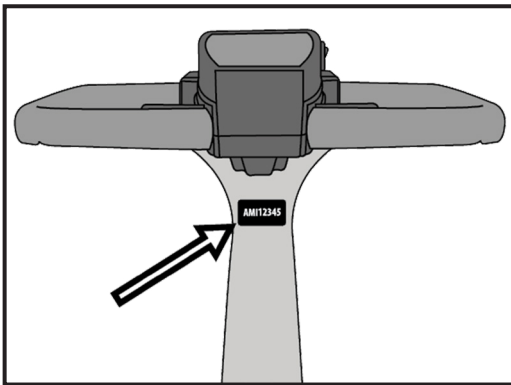

Figure 14
- Below the handle on the steering column (Figure 14)